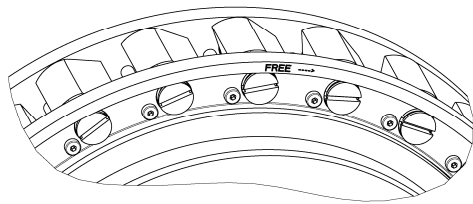

Figure 5: Clamp bodies “neutral position“
- Lift the inner race (2) including the cage (8) out of the outer race (1). Use appropriate lifting gear at the threaded hole of the inner race for this
- Place the inner race (2) including the cage (8) facing downwards the label "FREE" on an assembly table
- Secure (see Fig. 5 and 6) the clamp bodies in lift-off position (against the spring force) using an O-ring / cable connector as an assembly aid
- Insert the inner race (2) with cage (8) into the outer race (1) until half of the clamp body is covered